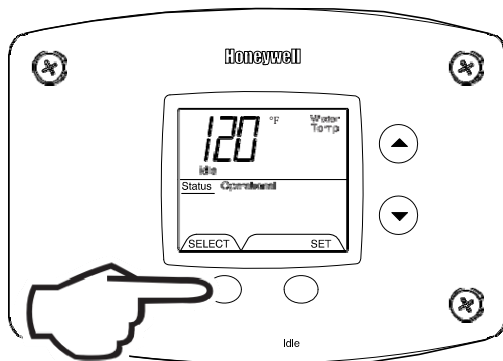

Fig. 39
2. Pressing 'Select' button will change display to next mode (Fig. 39).